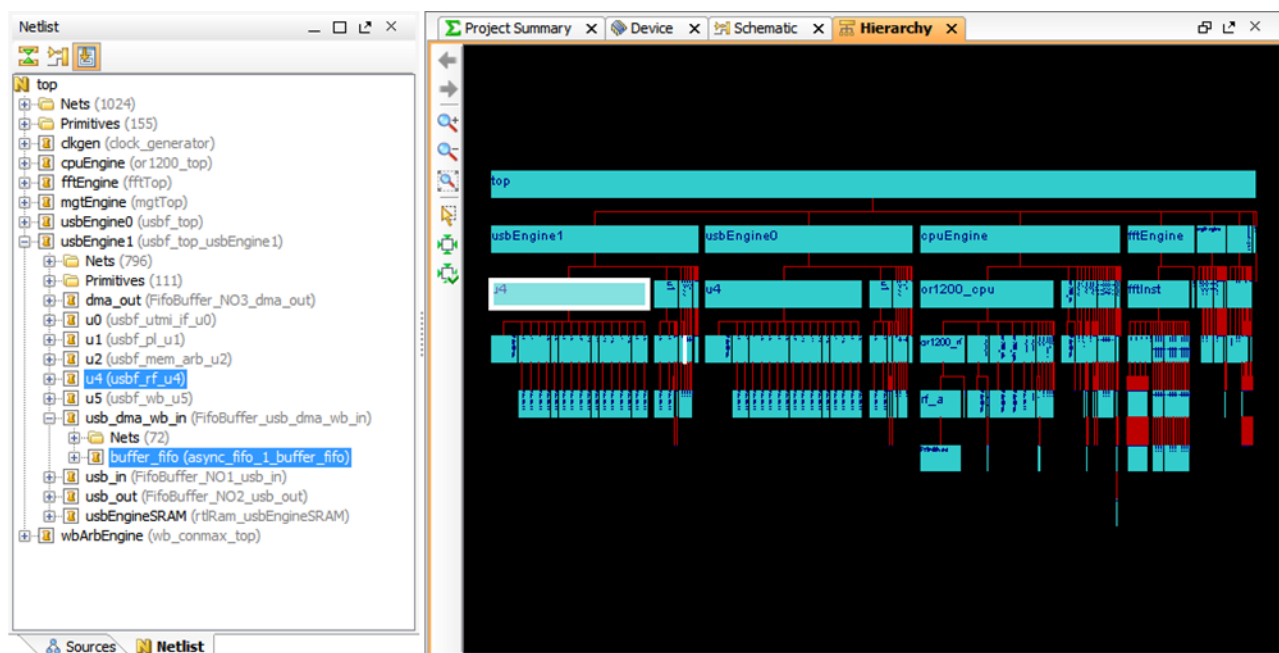

Figure 30: Viewing Hierarchy for Floorplanning
The Hierarchy view opens, as shown in FIGURE 30, with the selected modules highlighted. These are the hierarchical design modules associated with the selected timing paths.
1. Click to display the Schematic view that you opened previously, as shown in FIGURE 30.